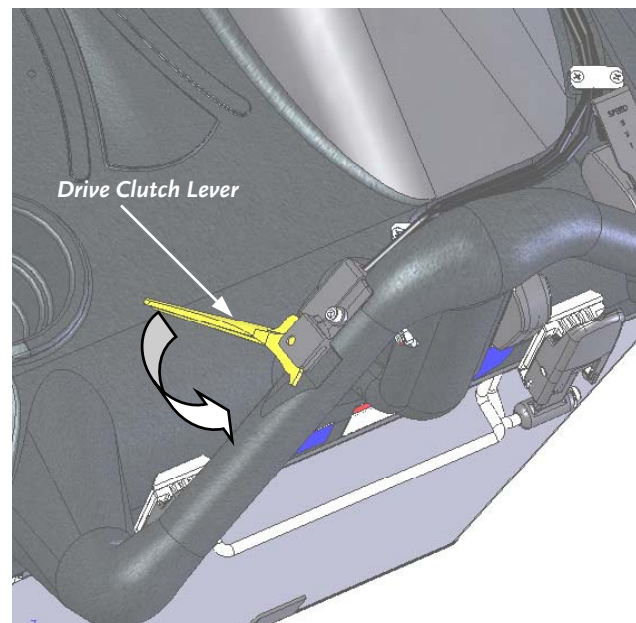

Figure 16
2. Squeeze the Drive Clutch Lever (**Figure 16**) against the Handlebar to engage the Wheel Drive.